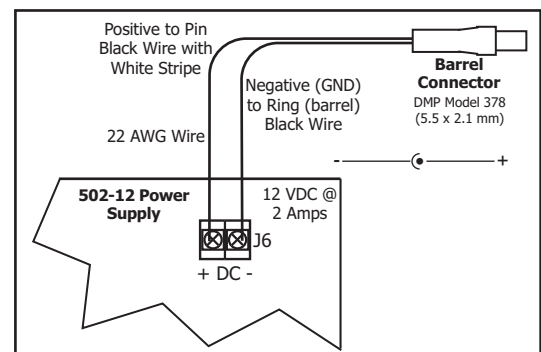

Figure 5: Power Supply Connection
6. If installing a purchased 5.5 x 2.1 mm barrel connector, use 22 AWG wire to connect the positive wire to the pin and negative wire (GND) to the ring (barrel). See Figure 5.